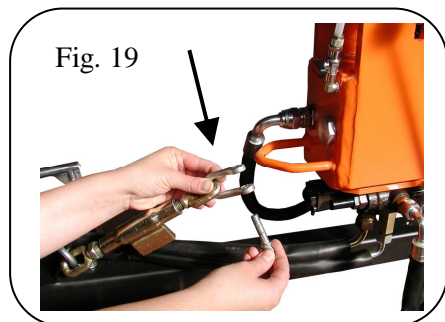

Fig. 19
- Fasten the tie rod using the special straight shackle (Fig. 19) and tension it so as to avoid pitch during road transport.